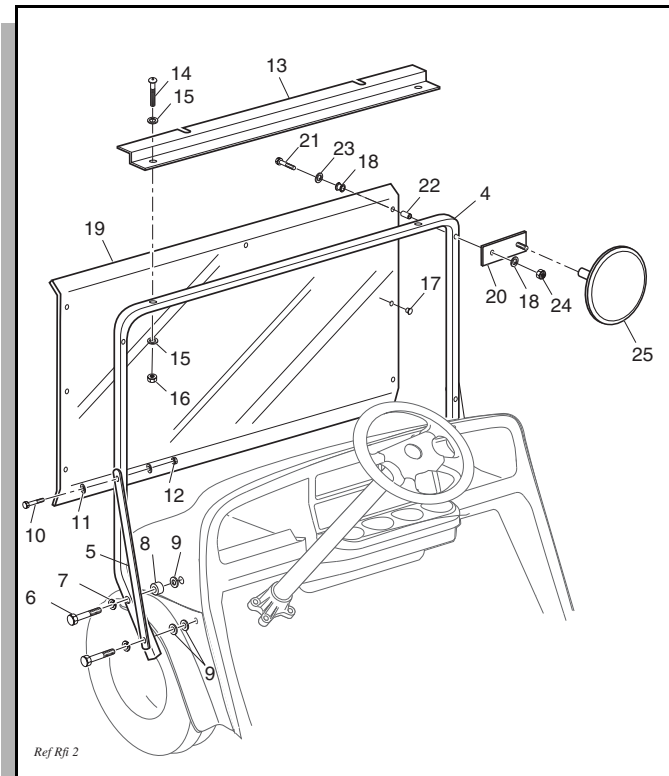

Fig. 2 Front Strut, Windshield and Mirror Installation to the unit. Be sure hands and fingers are clear of unit while lowering.
Position front strut (item 4) and braces (item 5) as shown (Ref. Fig. 2 on page 3) and secure to vehicle at each side of the cowl with four 5/16 - 18 X 2 1/2" bolts (item 6), four 5/16" lock washers (item 7), two spacers (item 8) and six 3/8" flat washers (item 9). Secure top of braces with two 5/16 - 18 X 2 1/4" bolts (item 10), four 5/16" lock washers (item 11) and two 5/16 - 18 lock nuts (item 12). Attach canopy frame mounting plate (item 13) to front strut using two 1/4 - 20 X 1 1/2" bolts (item 14), four 1/4" flat washers (item 15) and two 1/4 - 20 lock nuts (item 16) as shown. Tighten hardware firmly.
Insert two bumpers (item 17) and four grommets (item 18) into holes in windshield (item 19) as shown (Ref. Fig. 2 on page 3). Position windshield and mirror brackets (item 20) as shown. Secure windshield and mirror brackets to front strut with four 1/4 - 20 X 1 3/4" bolts (item 21), four spacers (item 22), four 1/4" washers (item 23) and four 1/4 - 20 lock nuts (item 24). Tighten hardware firmly. Thread mirrors (item 25) onto mirror brackets and tighten securely.